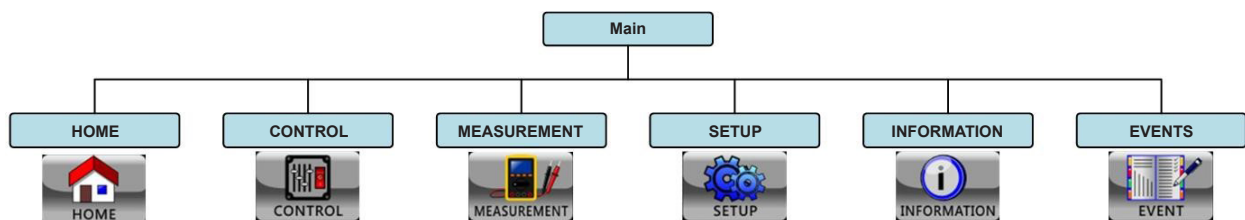

Figure 4.4 Menu Tree
- ❶ **UPS Operation Mode:** Shows UPS current operation mode and status.
- ❷ **UPS Flow Chart:** Shows current flow chart and measurement data.
- ❸ **Main Menu:** Touch each icon to enter submenu. Refer to Figure 4.4 for menu tree.